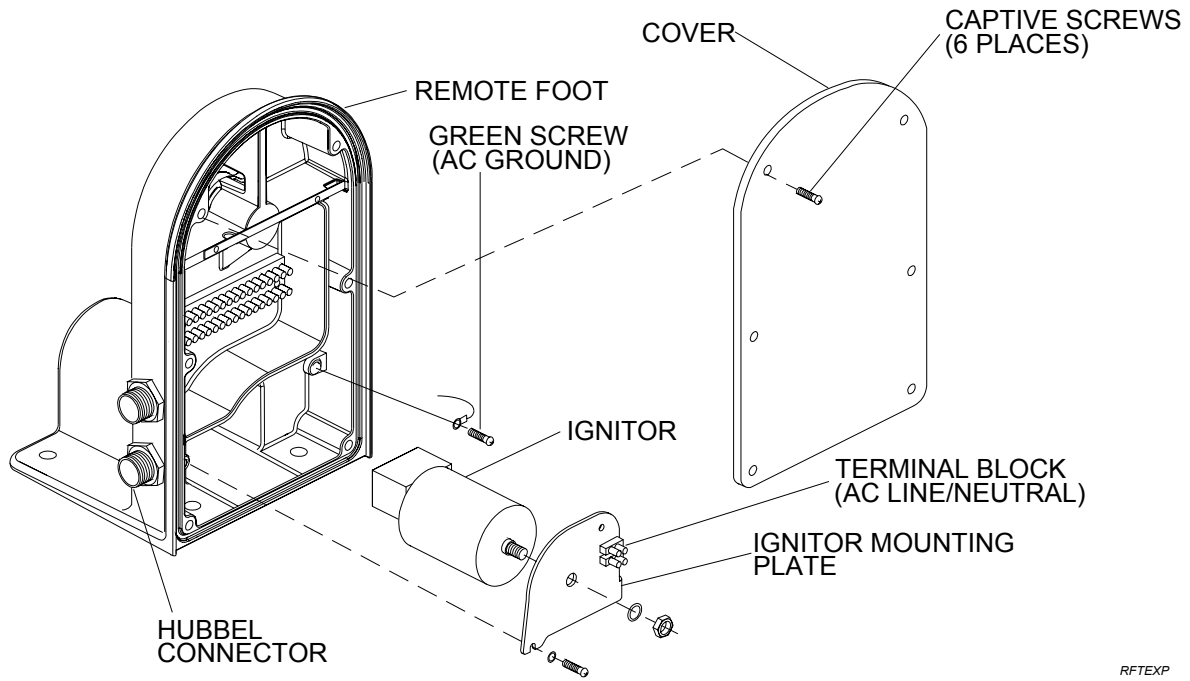

Figure 6.17 - Remote Foot Ignitor.
1. Using #2 flat screwdriver, remove large cover from remote mounting assembly, gradually loosening screws in a cross-diagonal pattern to avoid damage to captive screws (Figure 6.17).